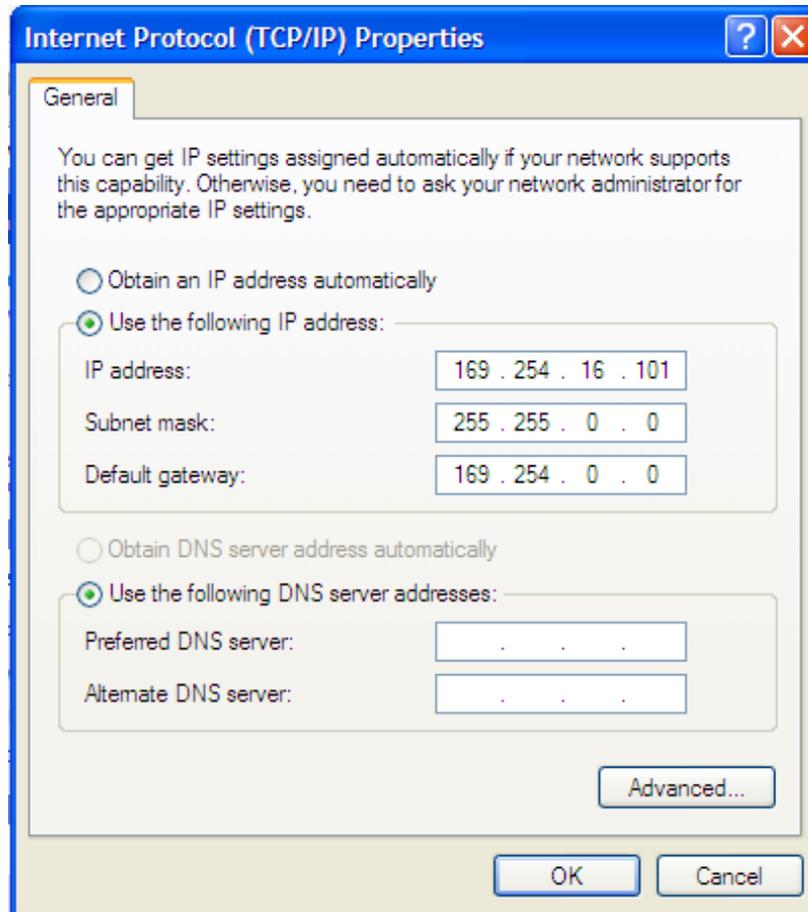

Figure 22 - TCP/IP Properties
12. Once configured, open a web browser and type http://169.254.16.100 and press enter on the keyboard. A screen similar to Figure 22 should appear. You are now connected to the 1830A via LXI.